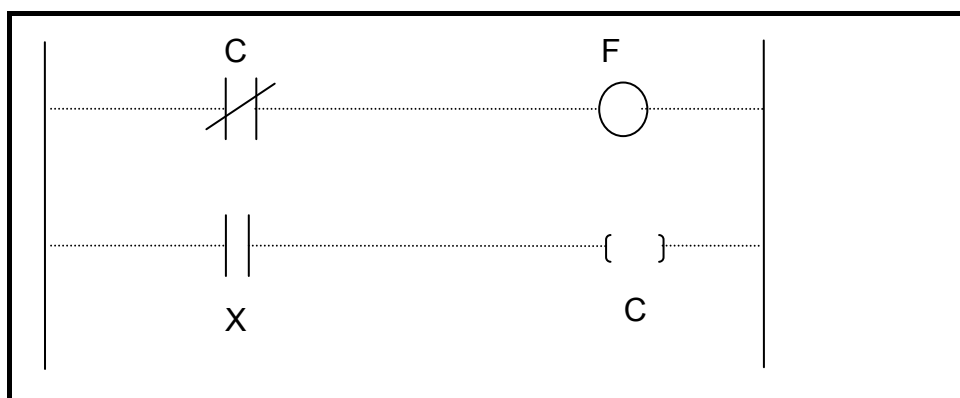

FIGURE 9.1: LADDER DIAGRAM
9.3 With reference to the ladder diagram in FIGURE 9.1 below, answer the following questions.
- 9.3.1 Draw the relay circuit of the ladder diagram in FIGURE 9.1. (5)
9.3.3 Write down the truth table for the circuit in FIGURE 9.1. (3)